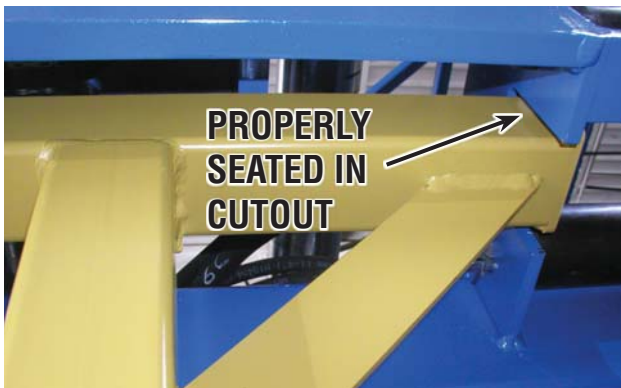

FIGURE 1
① *On double, triple, and quad stack battery extractors, the operator either must remain on the operator platform during service or be provided an OSHA approved method of egress. This is not applicable to single level battery extractors as the operator platform height is fixed.*
2. Install the stands by engaging the top of the stand into the inner carriage cutouts. Place the bottom channel of the stand over the tube of the outer frame. The top flanges of each stand are tapered to aid in proper alignment of the stand with the inner frame. See Figures 1 & 2.